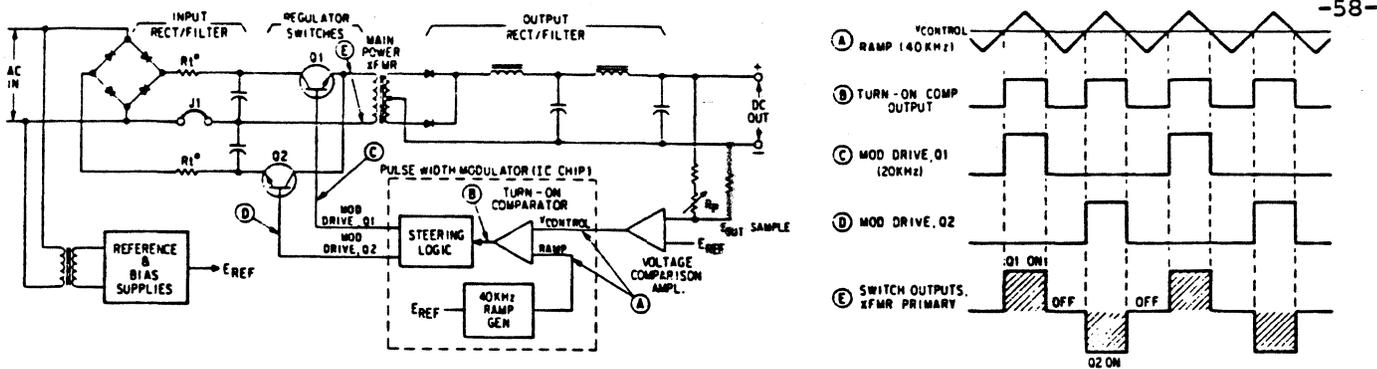
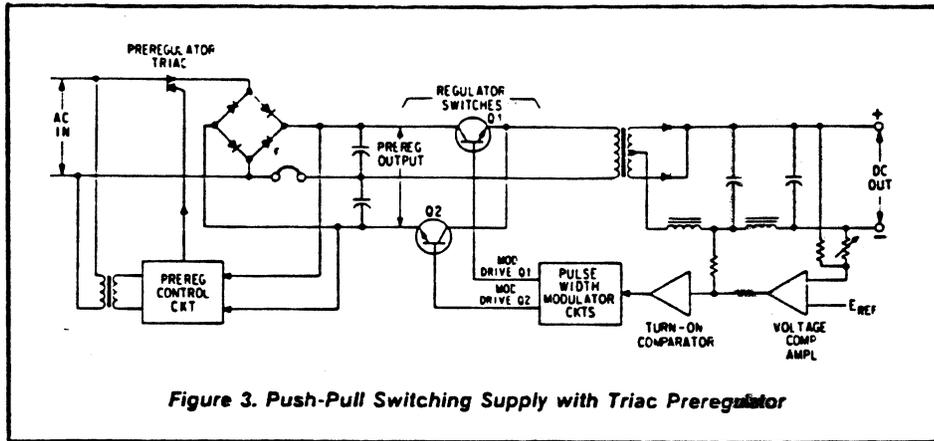
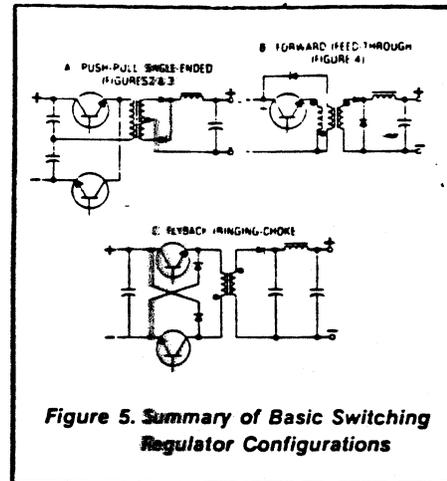

Figure 2. Switching Supply with Push-Pull Transistors and Feedback for Regulation
Figure 3. Push-Pull Switching Supply with Triac Preregulator
Figure 5. Summary of Basic Switching Regulator Configurations
Figure 2 shows a schematic of one of HP's higher power, yet less complex, switching supplies. Regulation is accomplished by a pair of push-pull switching transistors operating under control of a feedback network consisting of a pulse-width modulator and a voltage comparison amplifier. The feedback elements control the ON periods of the switching transistors to adjust the duty cycle of the bipolar waveform (E) delivered to the output rectifier/filter. Here the waveform is rectified and averaged to provide a dc output level that is proportional to the duty cycle of the waveform. Hence, increasing the ON times of the switches increases the output voltage and vice-versa.
The waveforms of Figure 2 provide a more detailed picture of circuit operation. The voltage comparison amplifier continuously compares a fraction of the output voltage with a stable reference (E_{REF}) to produce the VCONTROL level for the turn-on comparator. This device compares the VCONTROL input with a triangular ramp waveform (A) occurring at a fixed 40kHz rate. When the ramp voltage is more positive than the control level, a turn-on signal (B) is generated. Notice that an increase or decrease in the VCONTROL voltage varies the width of the output pulses at B and thus the ON time of the switches.
Figure 3 shows a schematic of another switching supply similar to Figure 2 except for the addition of a triac preregulator and associated control circuit. The triac is a bidirectional device and is usually connected in series with one side of the input primary. Whenever a gating pulse is received, the triac conducts current in a direction that is dependent on the polarity of the voltage across it. The goal is to control the triac so that the bridge rectifier output (dc input to the switches) is held relatively constant. This is accomplished by a control circuit that issues a phase-adjusted firing pulse to the triac once during each half-cycle of the input ac. The control circuit compares a ramp function to a rectified ac sine wave to compute the proper firing time for the triac.
While the regulating transistor is conducting, the half-wave rectifier diode is forward biased and power is transferred to the output filter and the load. When the regulator is turned off, the "flywheel" diode conducts, sustaining current flow to the load during the off period. A flywheel diode (sometimes called a freewheeling or catch diode) was not required in the two transistor regulators of Figures 2 and 3 because of their full-wave rectifier configuration.
Figure 5 shows three basic switching regulator configurations that are often used in today's power supplies. Configuration A is of the push-pull class, and this version was used in the switching supplies shown in Figures 2 and 3. Other variations of this circuit are used also, including two-transistor balanced push-pull and four transistor bridge circuits.